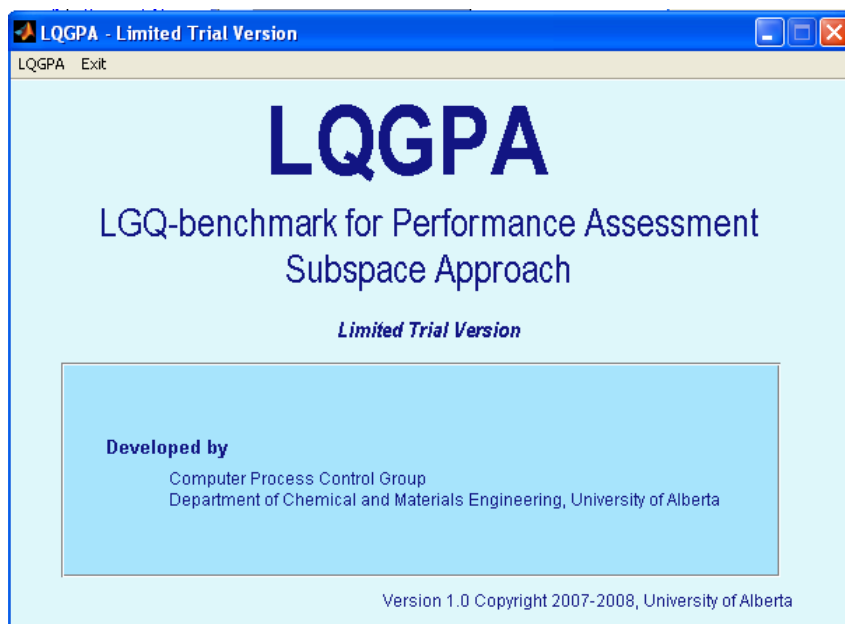

Figure 1: The first GUI that appears
- 3) At the command prompt, type “>>**main_LQGPA**” to start the toolbox. The GUI shown in Figure 1 should appear.